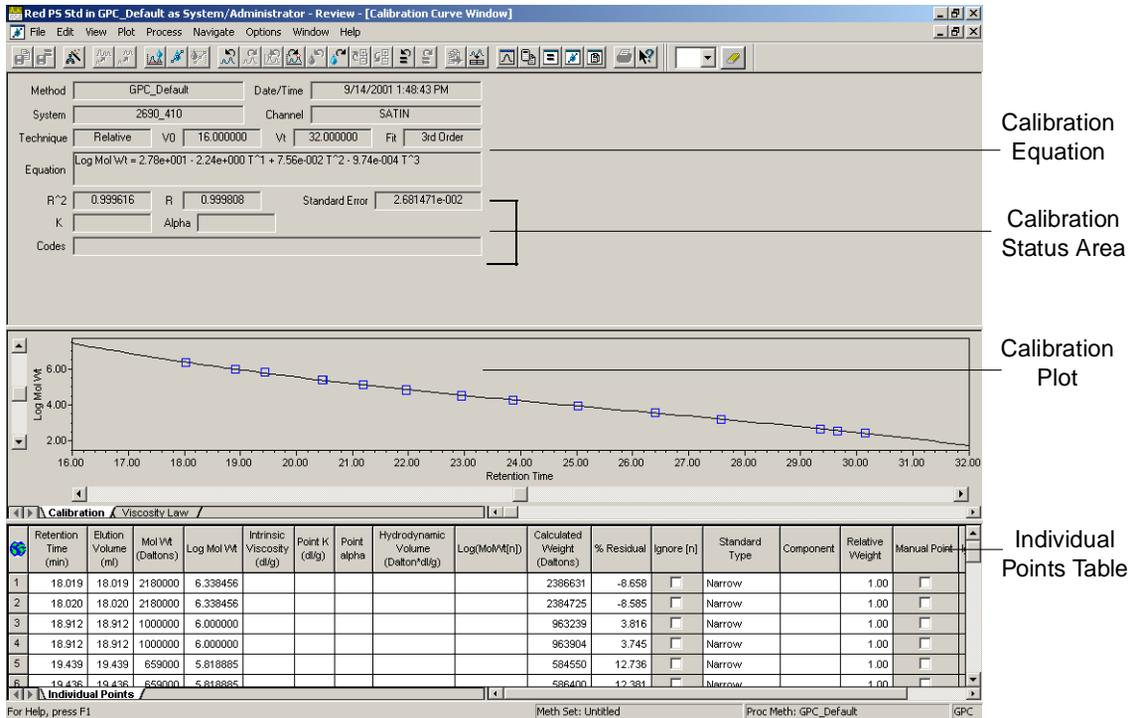

Figure 2-20 Calculated Calibration Curve
1. Select **Window > Calibration** in Review to display the Calibration Curve window (Figure 2-20).
1. Check the shape of the calibration curve and note whether an invalid curve message appears in the calibration status area (see Figure 2-20).
3. Check the correlation coefficient (R) and standard error of the calibration curve in the calibration status area.